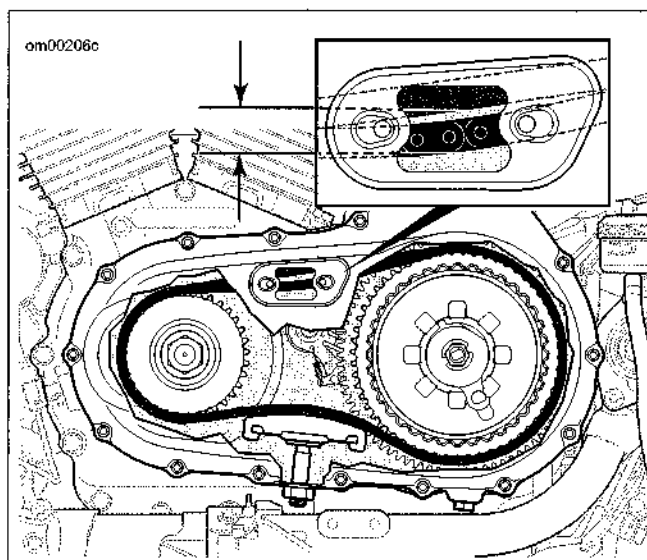

Figure 1-14. Primary Chain Free Play
3. See Figure 1-14. Through the inspection opening, measure chain free play at the tightest position.